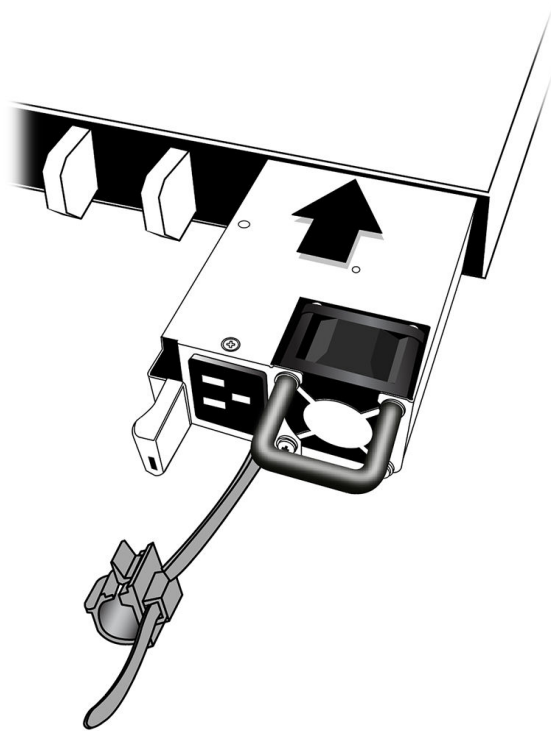

Figure 31: Installing an 800 W AC Power Supply
6. Carefully slide the power supply all the way into the power supply bay (see Figure 31).